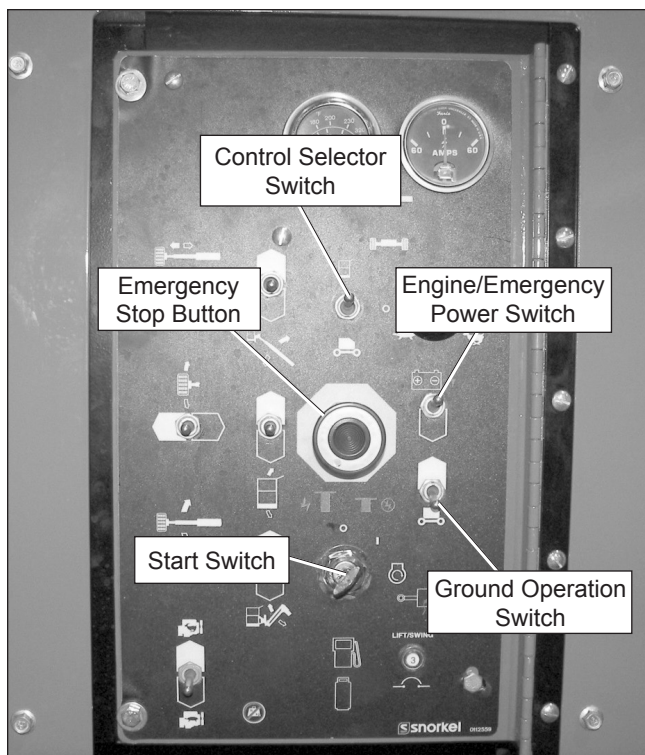

Figure 7.11 – Lower Controls
With no personnel in the platform, test the operation of each control from the lower controls (refer to Figure 7.11).
- Push the emergency stop button (refer to Figure 7.11) inward to turn off electrical power.
- Hold the engine/emergency power switch (refer to Figure 7.11) downward and the ground operation switch upward to operate the aerial platform from the lower controls using the emergency power system.